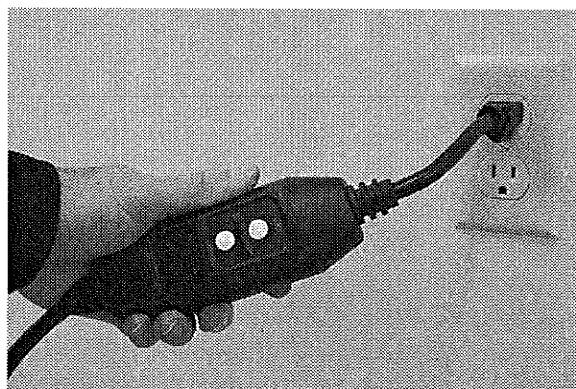

FIG. 7
2. The power cord is equipped with a Ground Fault Circuit Interrupter device (Figure 7). The GFCI protects the user against electrical shock.